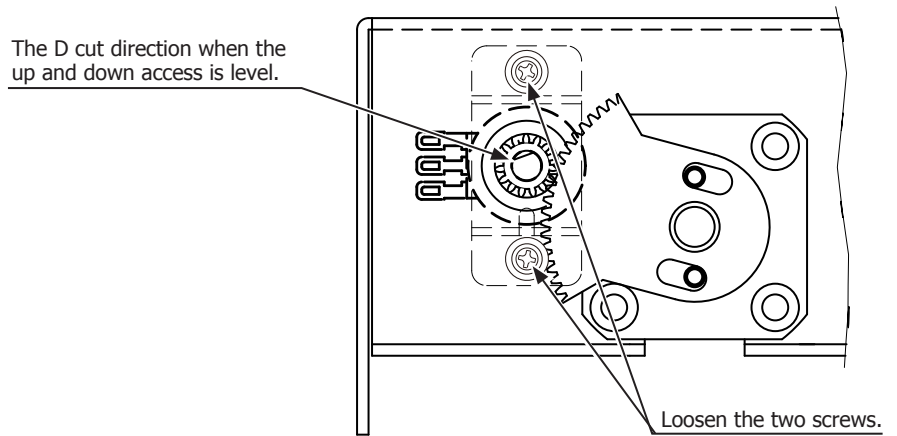

FIG. 11-3e Y Axis (up and down) Volume
- 17** As in the above adjustment method, with the Control Unit level, engage the gears with the D cut face of the volume axis in the direction shown in the diagram and attach it to the Control Unit. (See FIG. 11-3e).